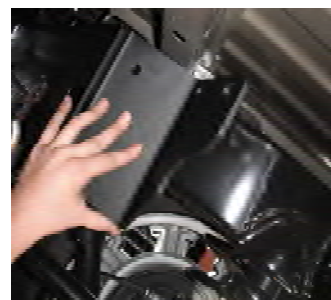

Figure 6.2: Passenger side plate looking from floor up at the passenger side frame.
Position the side plate with (2) bends so the two round holes match up with the u-bolt on the passenger side and push the u-bolt into the holes. (See Figure 6.2) Secure the side plate and u-bolt with lock washers and nuts. Attach this side plate to the front cross member and center using a 1/2" x 2-1/4" bolt through the center, cross member and side plate along with a lock washer, two flat washers and hex nut. Finish by attaching a 1/2" X 1-1/2" bolt through the cross member and the side plate adding a flat washer, lock washer and hex nut. Hand tighten these connections.